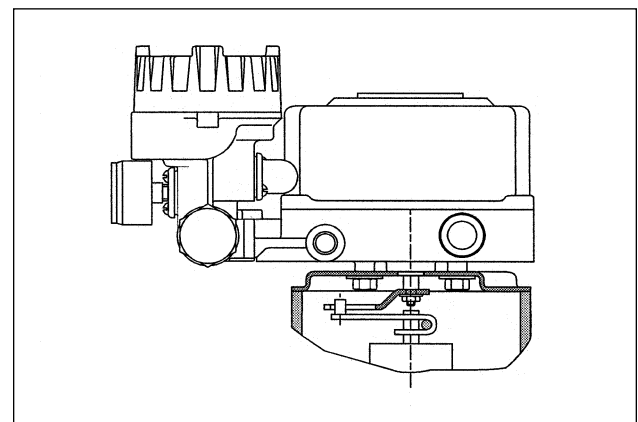

Figure 3: Positioner Mounting with Double D Shaft and Linkage
5. Place follower pin (mounted to the lever that is mounted to the valve shaft) into follower arm slot and bolt the transfer case plate in place finger tight only. See Figure 3.